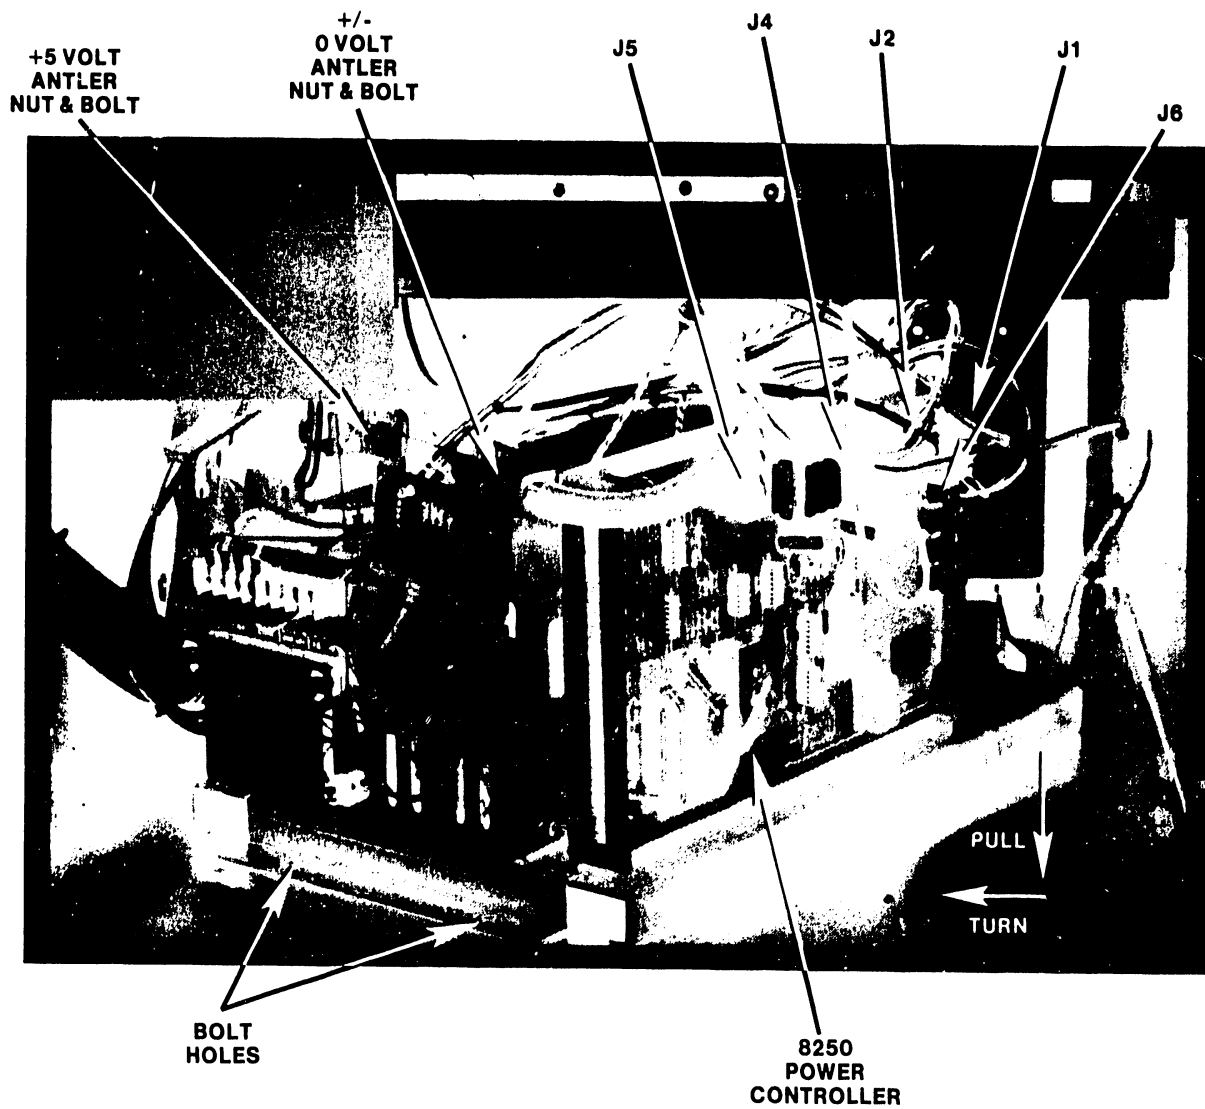

Figure 5-36. Power Supply Removal
3. Make sure that the 6-pin connector at J6 of the Power Controller board (figure 5-36) is reinstalled in the correct orientation. This connector can be forced on upside down. (Even though connectors J6 through J9 are common connectors, use J6.)